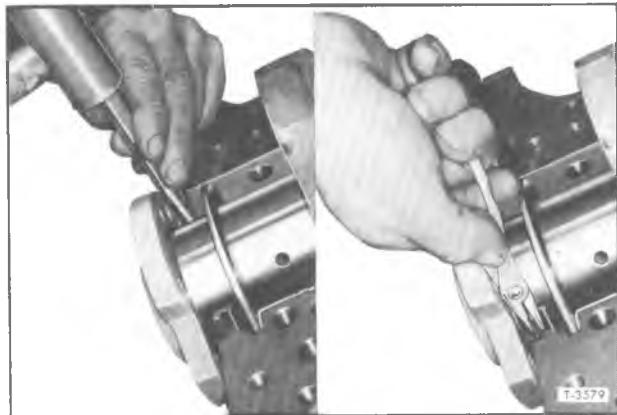

Figure 36—Removing Oil Seal Upper Half
3. To remove the upper half of the seal, use a small hammer to tap a brass pin punch on one end of seal until it protrudes far enough to be removed with pliers (fig. 36).